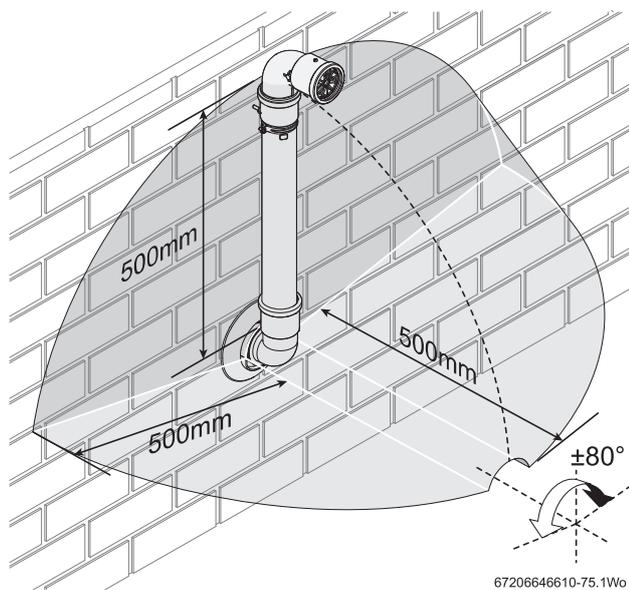

Fig. 19 Terminal exclusion zone
The minimum plume length should be calculated to ensure that the air inlet and exhaust have a minimum distance of 500mm between them (→ figure 19).
▶ Do not terminate the plume management inside the shaded area shown in figure 19